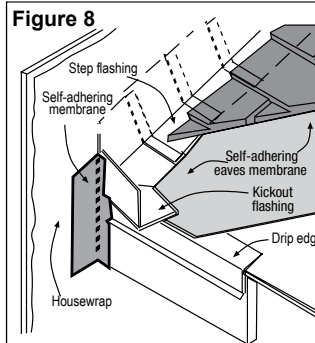

Figure 8
Figure 8, Kickout Flashing* To prevent water from dumping behind the siding and the end of the roof intersection, install a "kickout" as required by IRC code R905.2.8.3 : "...flashing shall be a min. of 4" high and 4" wide." James Hardie recommends the kickout be angled between 100° - 110° to maximize water deflection
* The illustration (figure 8) was reprinted with permission of THE JOURNAL OF LIGHT CONSTRUCTION. For subscription information, visit www.jlconline.com.